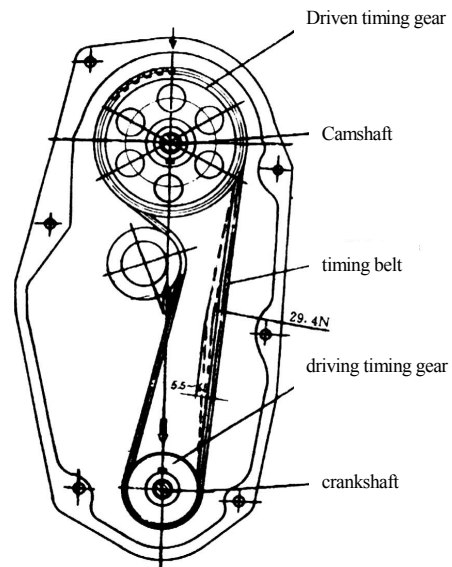

Fig. 34. Maintenance of valve mechanism
Rotate the crankshaft for 360° so that the first cylinder is at top dead point of its exhaust stroke, and the fourth cylinder is at top dead point of compression stroke, so one of the two marks on the driven timing gear edge, which is opposite to the key way, should be in line with the triangular mark (V) on the timing belt cover (see fig. 34).